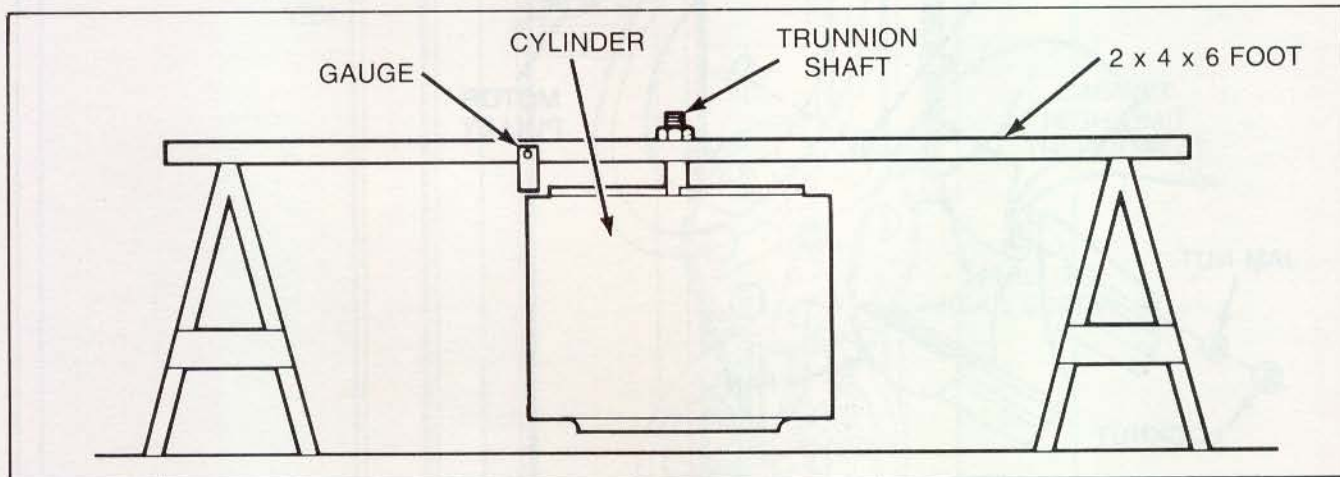

Figure 20
**IMPORTANT:** When installing trunnion shaft assembly on cylinder, cylinder and shaft must be leveled. See *Figure 20* for an example of how to check the levelness of the shaft and cylinder. Support a 6 foot 2 x 4 and drill a hole in the 2 x 4 slightly larger than size of the trunnion shaft. Hang shaft and cylinder through the hole and place nut on shaft. While turning cylinder by hand, use a gauge and check the cylinder edge for levelness. If cylinder is not level, place a shim or shims between the appropriate trunnion bracket, rod and cylinder.